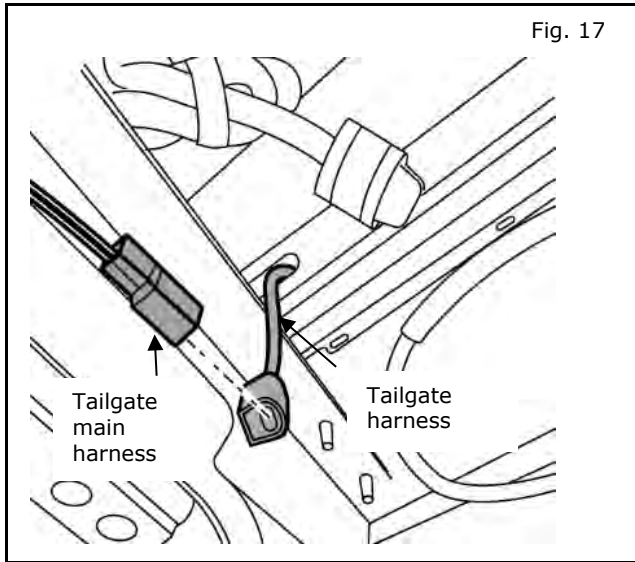

Fig. 17
- 17) Connect tailgate harness to the kit provided tailgate main harness (999M2 W3002). (Figure 17)